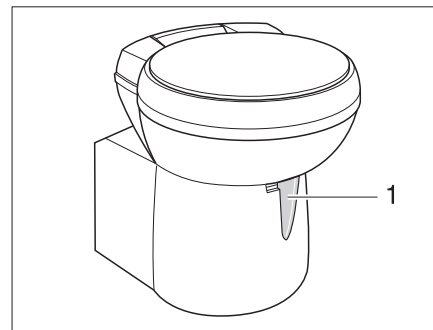

Fig. 130 Thetford toilet bowl, swivelling
- Before flushing open the sliding trap of the Thetford toilet. To do this, push the slide lever (Fig. 130,1) anticlockwise.
- Push the slide lever (Fig. 130,1) in a clockwise direction. The sliding trap is closed. To empty, the sliding trap in the Thetford toilet **must** be closed.